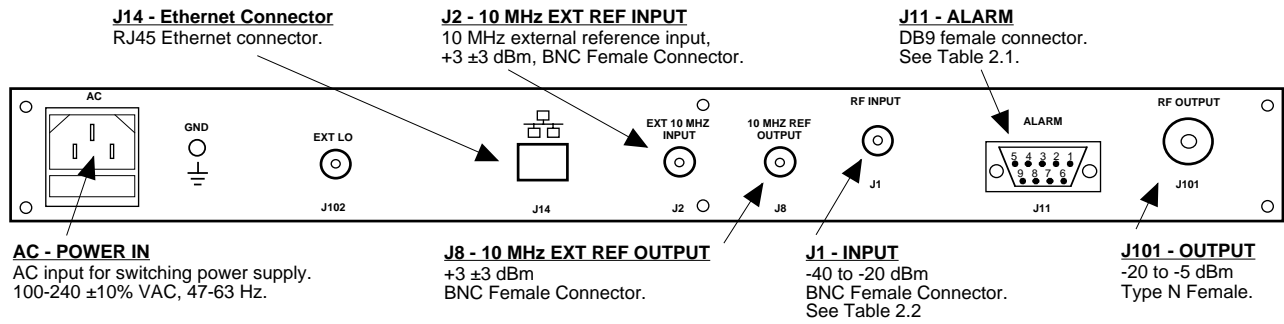

FIGURE 2.1 3115-126 Rear Panel I/O's
Figure 2.1 shows the input and output connectors on the rear panel.
1. Connect a -40 dBm to -20 dBm signal to L-Band IN, J1 (Figure 2.1).